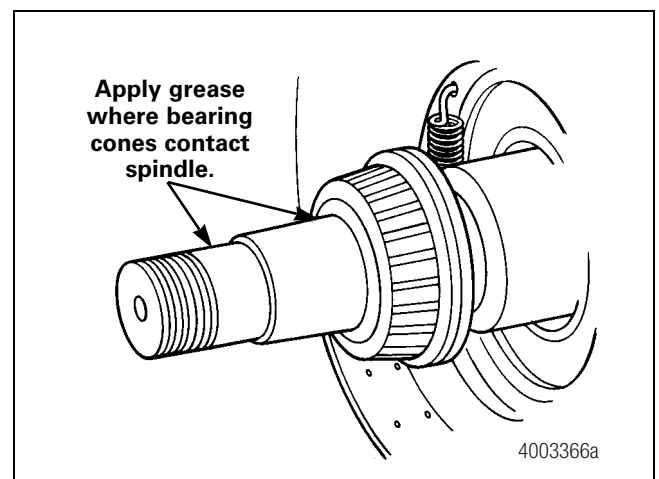

Figure 14.3
2. Apply a light film of NLGI 1 or 2 grease, not oil, to the axle spindle bearing journals to help protect them from fretting corrosion. Figure 14.3.